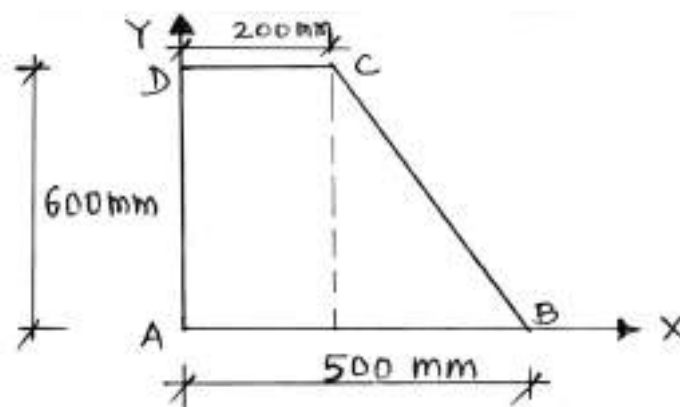

Fig. No. 8.
- a) Calculate centroidal position of the lamina of negligible uniform thickness shown in Fig. No. 8.